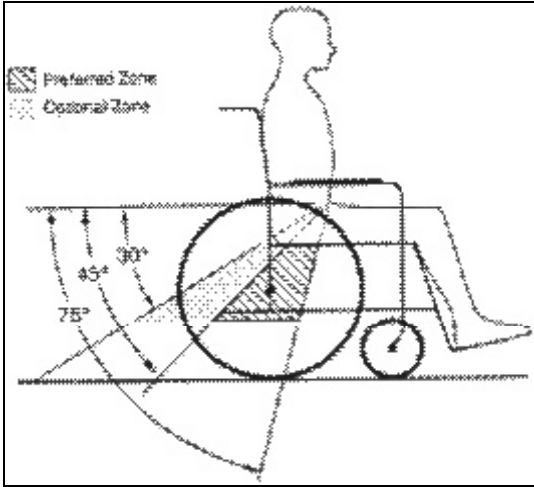
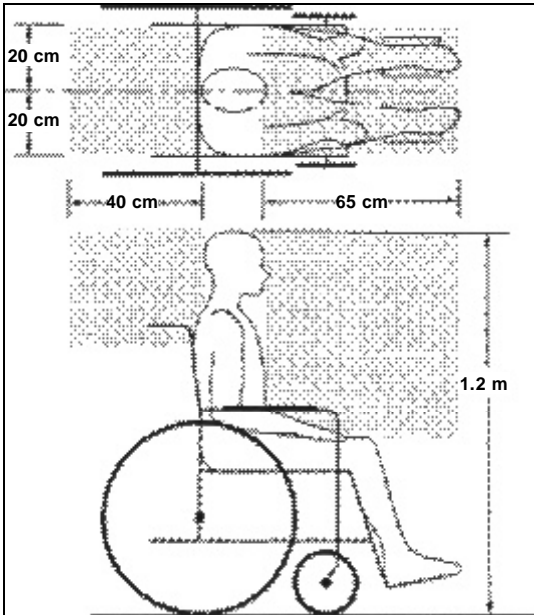

Figure 2: Desired Pelvic Belt Angle
Figure 3: Recommended Safety
- k. Refer to FIGURE 2: A side view of the desired pelvic belt angle range.
- (1) NOTE 1: Steeper side-view pelvic-belt angles are especially important if the pelvic belt is intended to be used for postural support in addition to occupant restraint in a frontal crash. Steeper angles will reduce the tendency for a vertical gap to develop between the user and the belt due to compliance of seat cushions and belt movement, thereby reducing the tendency for the user to slip under the belt and for the belt to ride up on the soft abdomen during normal use.
- (2) Steeper belt angles also reduce the tendency for upper-torso belts to pull the pelvic belt into the abdomen during frontal impact loading.
- o. Follow the precautions for the recommended safety zone shown in FIGURE 3.